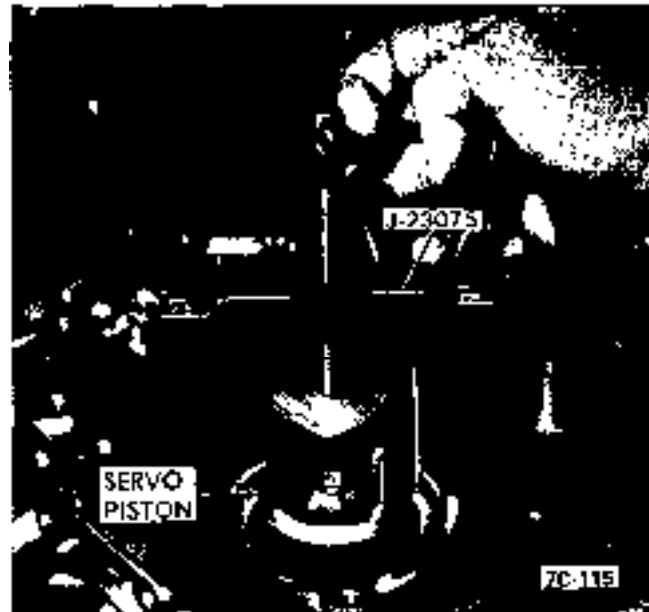

Figure 7C-115
3. Loosen servo piston compressor tool J-23075 slowly as servo is under high spring tension. Remove tool and servo piston assembly. See Figure 7C-116.